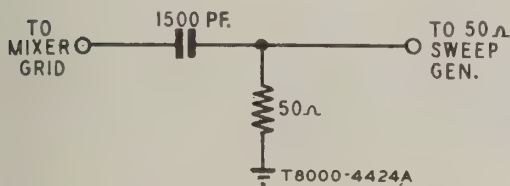

Figure 12 — Mixer Grid Matching Pad
MATCHING PADS.—See Figs. 12 through 17.
- SWEEP GENERATOR** . . . Connect in series with matching pad, shown in Fig. 12, to mixer grid test point on tuner.
SWEEP GENERATOR Connect in series with matching pad, shown in Fig. 12, to mixer grid test point on tuner.